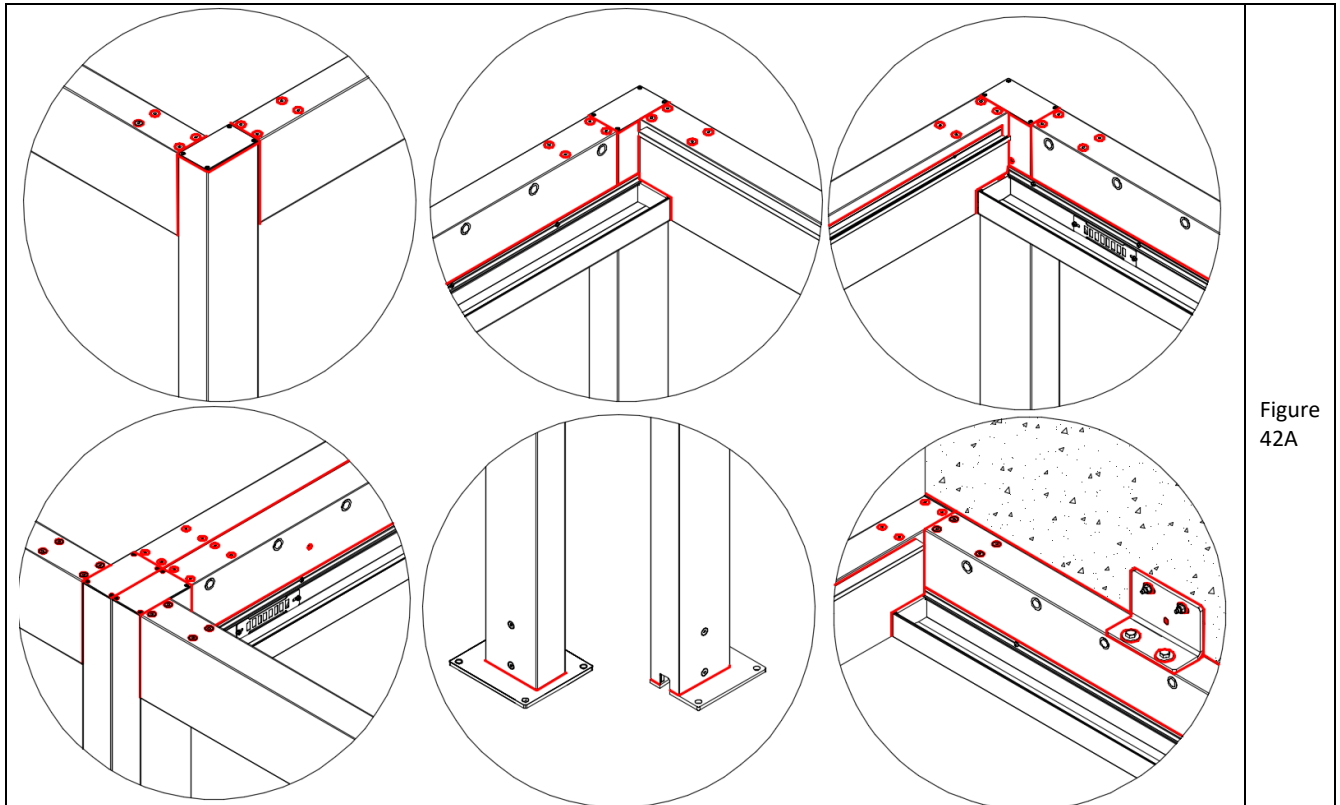

Figure 42A
3. Figure 42A shows in red the contact lines absolutely required for sealing. These include the beam-to-post joints, the outlines around the allen bolts, the top of the post end caps contacts with the beams, the top edge of the contact of each gutter with the beam, the outline of the contact of the gutter end cap with the beams or adjacent gutter, the contact of the beams with the building wall, the outline of the wall bracket, upper outline of the bolt washers securing the wall brackets to the beam, the triangular ends of the bent corner slot of the wall bracket (see Fig. 60), the upper contacts of the pergola modules, the contact of the post with the footing sheet, and others.